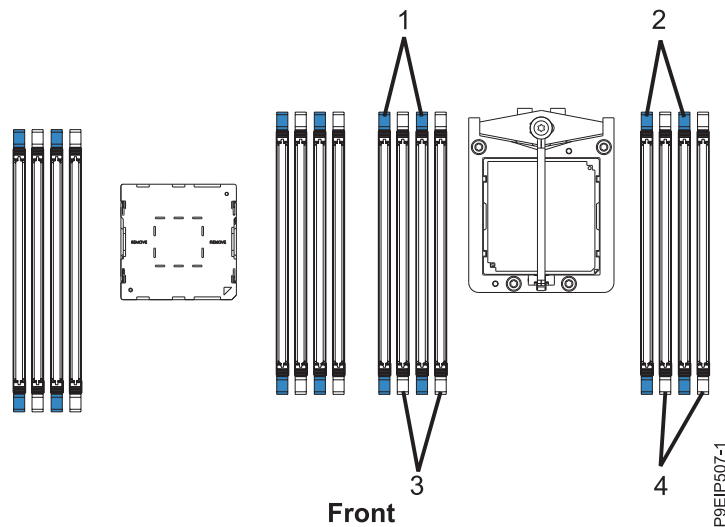

Figure 16. Single processor plugging sequence
- For a single processor system, use Table 3 on page 19 and Figure 16 on page 20.